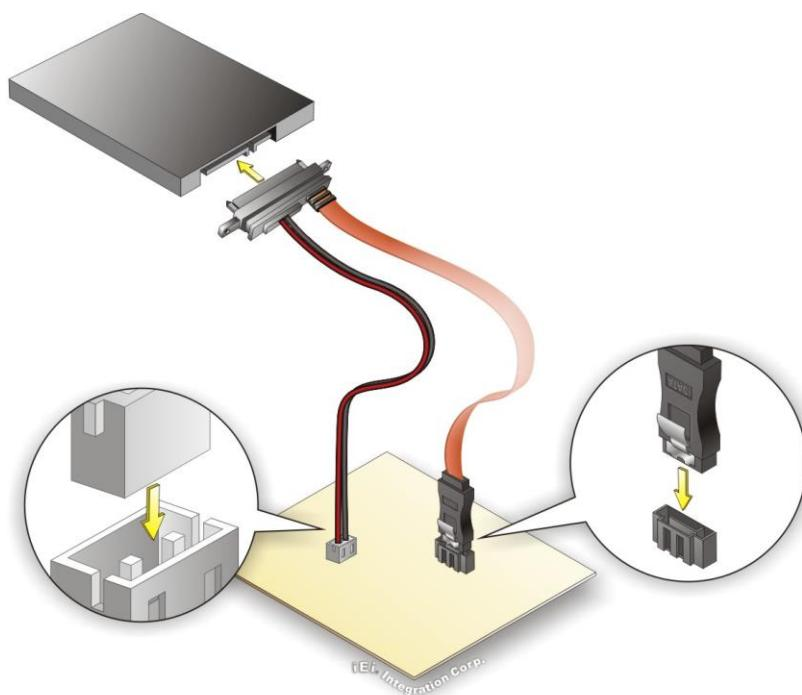

Figure 4-17: SATA Drive Cable Connection
Step 2: Insert the cable connector. Insert the cable connector into the on-board SATA drive connector and the SATA power connector. See **Figure 4-17**.